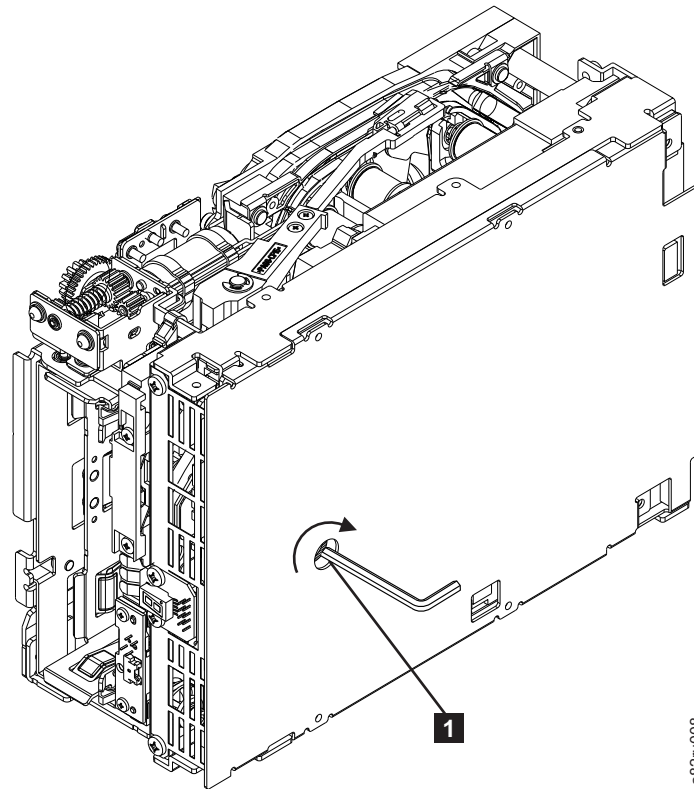

Figure A-15. The hex wrench rewinds tape into cartridge
3. From the bottom of the drive, locate the access hole (**1** in Figure A-15).
Note: Be sure to keep tension on the tape as the LBA is drawn into the cartridge by using a hex wrench as shown in Figure A-15 on page A-16.